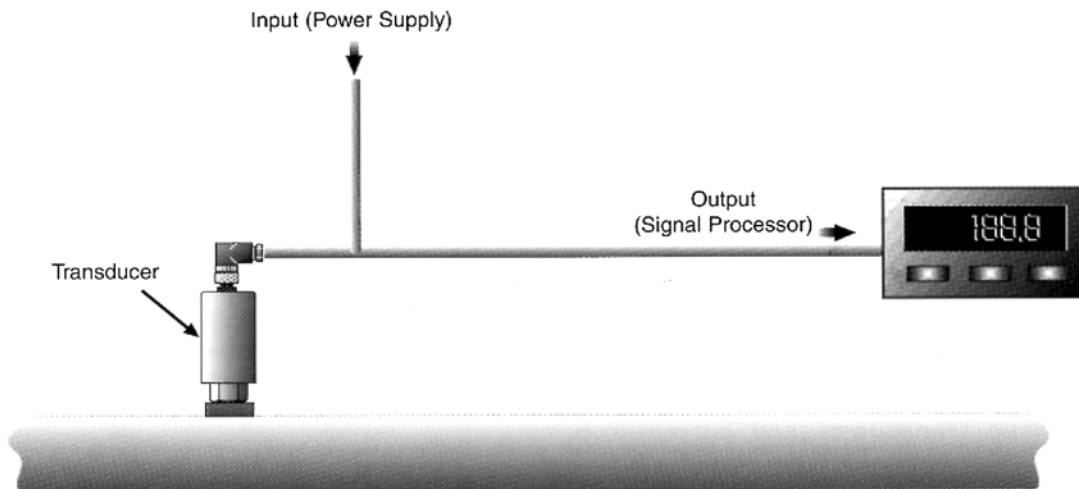

FIGURE 1. Typical pressure measurement system.
A pressure measurement system has three primary components: (1) pressure transducer, (2) excitation power supply, and (3) signal processor which can include a digital or analog readout meter, oscilloscope, digital voltmeter, tape recorder, computer, chart recorder, X-Y plotter, controller or recorder (see Figure 1). A ratiometric transducer requires the user to select an accurate power source and signal conditioner. This is necessary because the ratiometric transducer's output voltage (V_o) is directly related to the supply voltage (V_s) by a ratio. The output voltage is $V_o = V_s \cdot S (P \div P_1)$, where P is the operating pressure, P_1 is the rated pressure, and S is the sensitivity. For a transducer where the sensitivity is 3 mV/V, with a unit rated for 100 psi and an input voltage of 10 volts, at an operating pressure of 50 psi the output voltage will be: